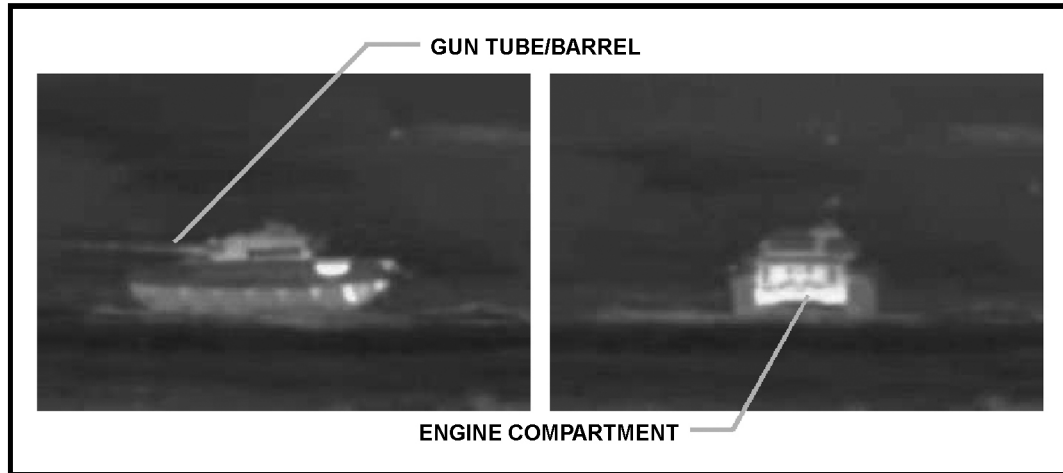

Figure C-32. Engine compartment and gun tube/barrel.
(3) **Gun Tube/Barrel.** The gun tube or barrel is another area to look for heat (Figure C-32). When the gun has been fired recently, it appears hotter than its background.